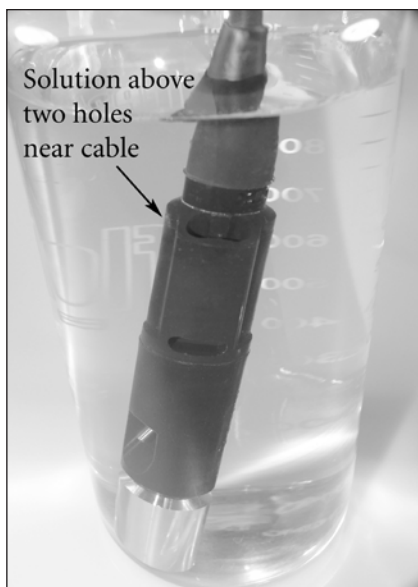

Figure 7, solution above two holes near cable.
1. Fill a clean container (i.e. plastic cup or glass beaker) with fresh, traceable conductivity calibration solution and place the sensor into the solution. The solution must cover the holes of the conductivity sensor that are closest to the cable (figure 7). Ensure the entire conductivity sensor is submerged in the solution or the instrument will read approximately half the expected value. Gently move the probe up and down to remove any air bubbles from the conductivity sensor.
1. Fill a clean container (i.e. plastic cup or glass beaker) with fresh, traceable salinity calibration solution and place the sensor into the solution. The solution must cover the holes of the conductivity sensor that are closest to the cable (figure 7). Ensure the entire conductivity sensor is submerged in the solution or the instrument will read approximately half the expected value. Gently move the probe up and down to remove any air bubbles from the conductivity sensor.
Before taking measurements, be sure the instrument has been calibrated to ensure the most accurate readings. Place the probe in the sample to be measured and give the probe a quick shake to release any air bubbles. Be sure the conductivity sensor is completely submerged in the sample. The two holes near the cable should be covered by the sample for accurate conductivity readings (figure 7). Allow the temperature readings to stabilize.